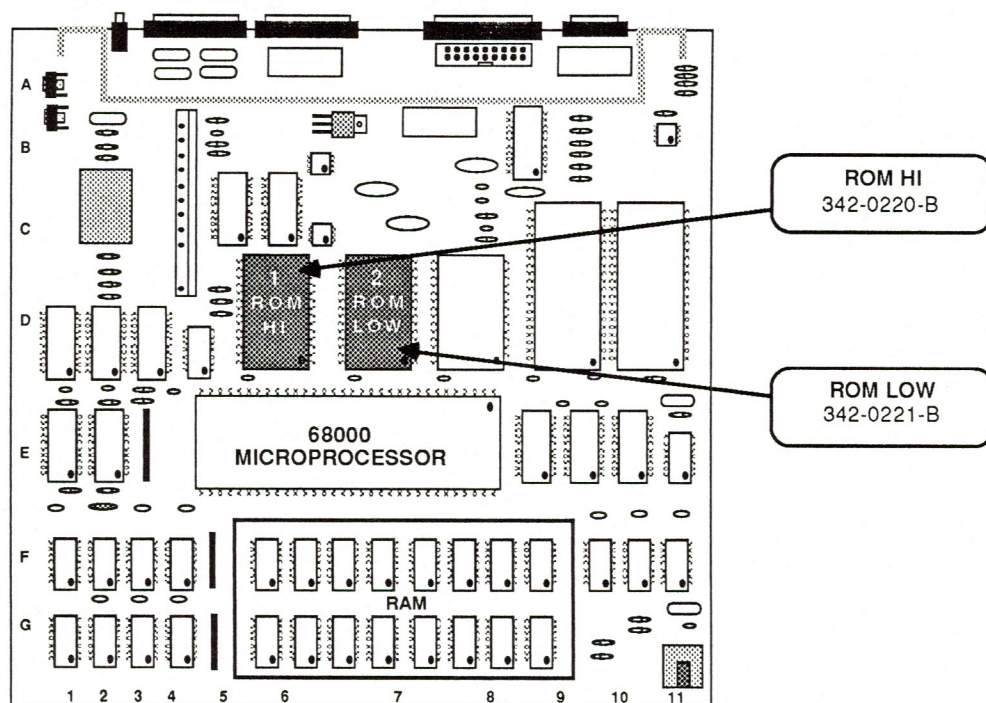

FIGURE 6
3. Remove the Macintosh logic board. Referring to Figure 6, locate the two ROMs and verify that the old ROMs are installed.